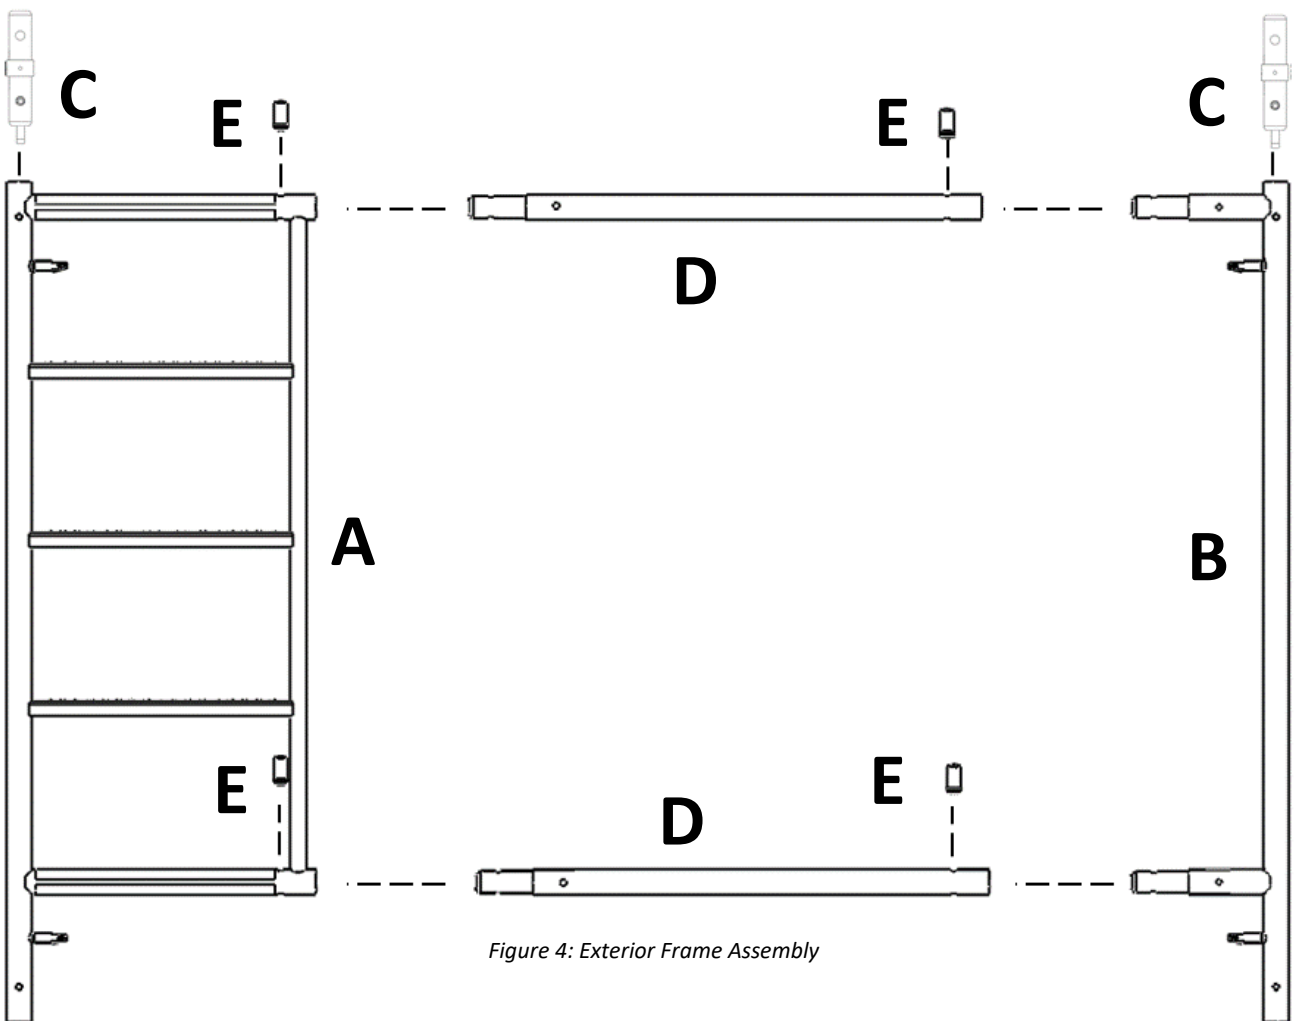

Figure 4: Exterior Frame Assembly
8. For the Exterior Scaffold configuration (Fig. 4), insert the pins on 2 of the Horizontal Extensions (D) into the holes of the Ladder Section (A) and install the $\varnothing 1\text{-}5/8"$ Snap Clips (E). Proceed then to insert the pins on the Ladder Sections (B) into the ends of the Horizontal extensions and install the 2 corresponding $\varnothing 1\text{-}5/8"$ Snap Clips (E). Set the frame on the ground close to the cross braces.